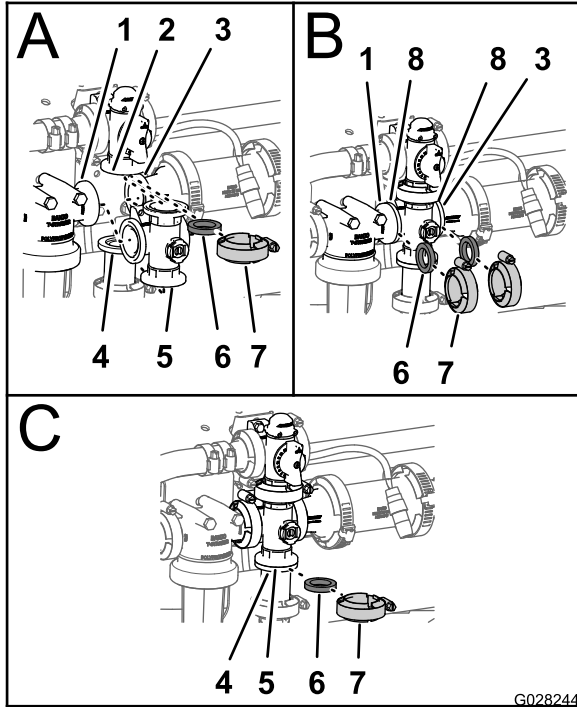

Figure 87
1. Align the flange of the agitation bypass valve, 1 gasket, and the endcap fitting flange of the agitation valve manifold (A of Figure 87).
2. Assemble the agitation bypass valve, gasket, and agitation valve manifold with a clamp tightened hand tight (A of Figure 87).
3. Align a 1 gasket between the flanges of the pressure filter head and the agitation valve manifold (B of Figure 87).
4. Assemble the pressure filter head, gasket, and agitation valve manifold with a clamp tightened hand tight (B of Figure 87).
5. Align a 1 gasket between the flanges of the agitation valve manifold and the reducer coupling (B of Figure 87).
6. Assemble the agitation valve manifold, gasket, and reducer coupling with a clamp tightened hand tight (B of Figure 87).
7. Align a 1 gasket between the flanges of the agitation valve manifold and the adapter fitting for the agitation throttle valve (C of Figure 87).
8. Assemble the agitation valve manifold, gasket, and adapter fitting with a clamp tightened hand tight (C of Figure 87).